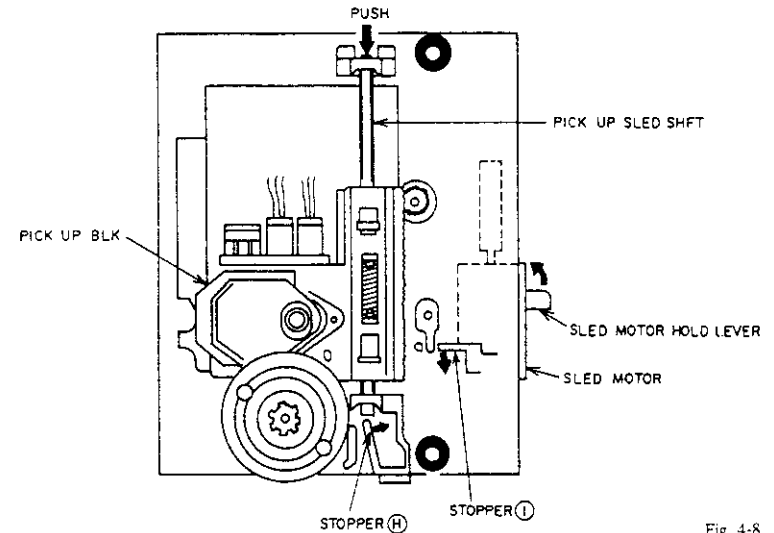

Fig. 4-8
- 1) Push PICK UP SLED SHAFT while releasing the STOPPER ⑧ as shown Fig.4-8 and pull out the PICK UP SLED SHAFT, then remove PICK UP BLK.